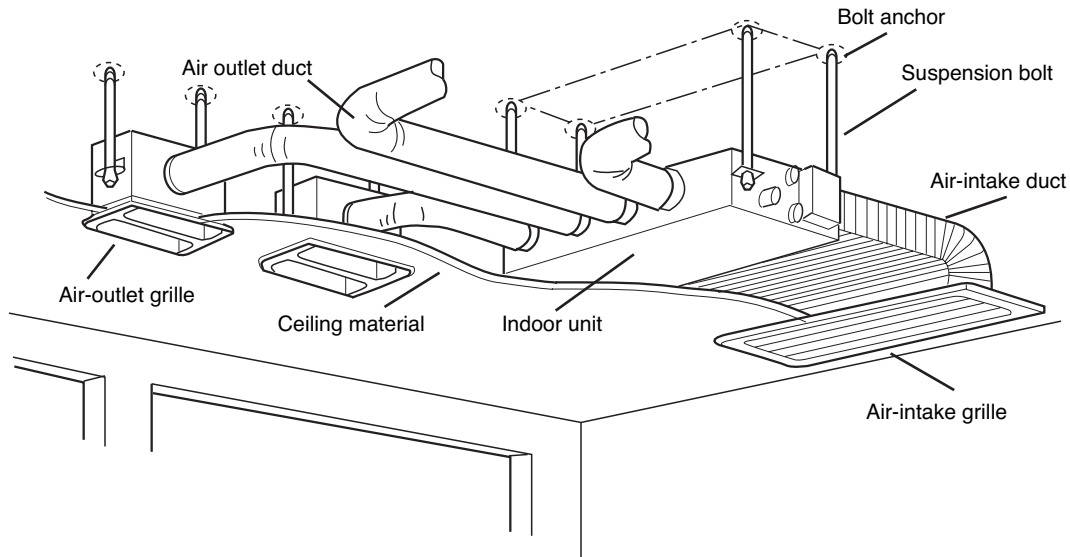

Fig. 3-97
- Fig. 3-97 shows an example of installation.